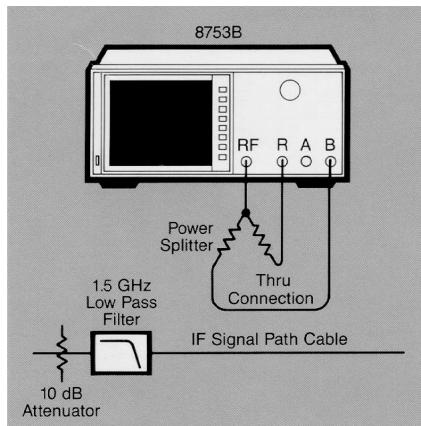

Figure 6. Block diagram for a B/R response calibration and device normalization
The following procedure describes the steps necessary to perform a swept IF conversion loss measurement using the setups in Figures 6 and 7. The first five steps in this procedure are used to measure the response of the IF signal path, so that its response can be mathematically removed from the conversion loss measurement that follows.
1. Connect the hardware in Figure 6 with a thru connection between the power splitter and the receiver's B port.
2. Press **[PRESET]** on the front panels of the 8753B and the local oscillator (LO) source.